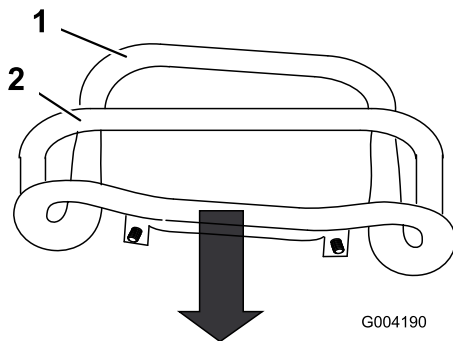

Figure 46
3. Pull straight back on the traction control so the front of the control contacts the reference bar (Figure 46).